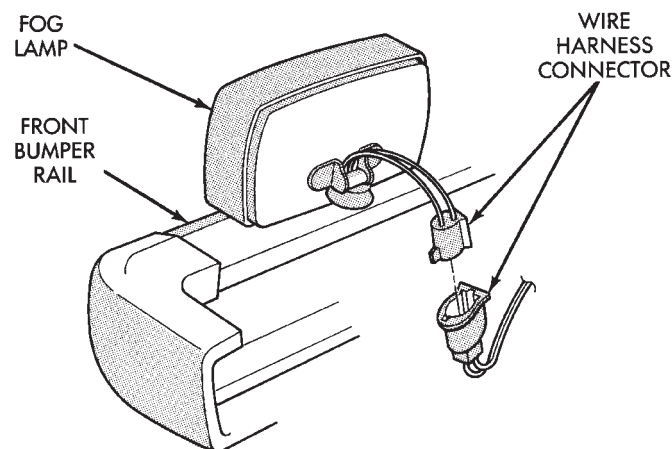

Fig. 40 Fog Lamp Wire Harness Connector—XJ Vehicles
(1) Disconnect the fog lamp wire harness connector (Fig. 40).